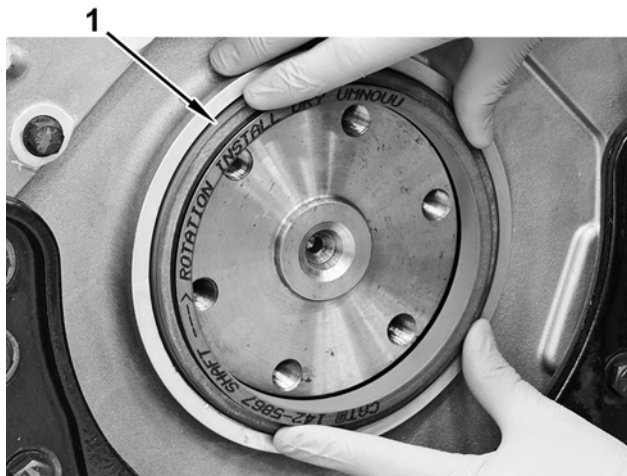

Figure 23 Seal on Crankshaft
28. Position seal on crankshaft end (Figure 23, Item 1).